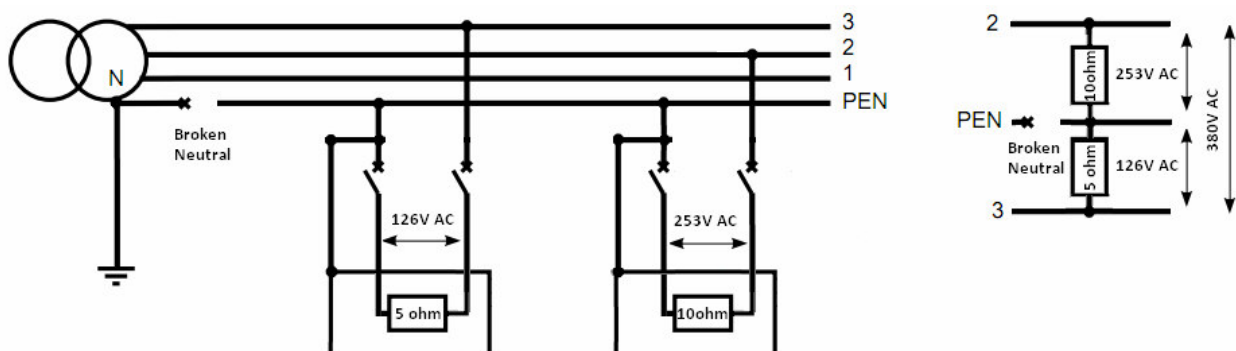

Figure 2: Effect of broken neutral on three phase TN-C system
3. When the neutral line is broken, the line to line voltage will appear across loads connected at difference phase in series. The voltage across will be divided in accordance to the impedance of the load of different phases (see figure 2).